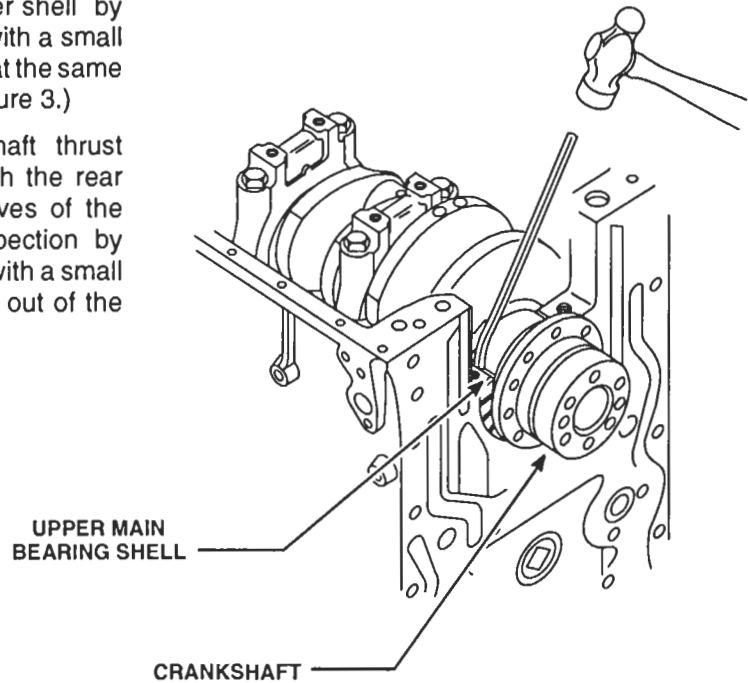

Figure 3. Upper Rear Main Bearing Shell Removal
- b. Remove the rear main bearing upper shell by tapping on the edge of the bearing with a small curved rod, revolving the crankshaft at the same time to roll the bearing shell out (Figure 3.)